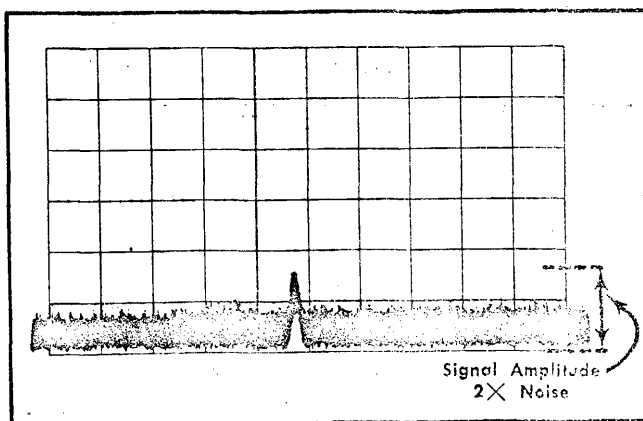

Fig. 5-7. Signal to noise ratio for measuring sensitivity.
f. Calibrate the Signal Generator output, then adjust the variable output attenuator control on the Signal Generator until the signal amplitude is two divisions (twice the noise amplitude). See Fig. 5-7.